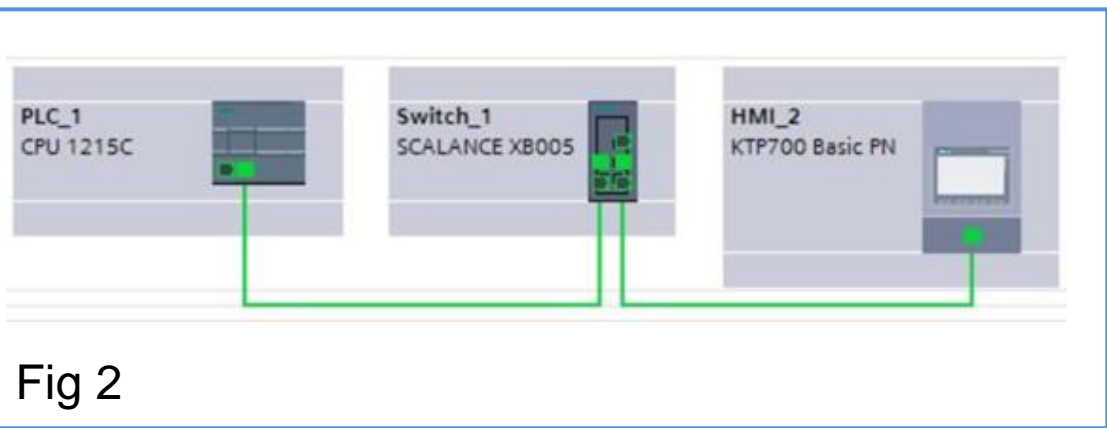

Fig 2
4. Step 4: Connect the parts 1,2 and 3 following the Fig.2;
6. Step 6: Connect parts 4 and 10 to the components of figure 2 as in figure 4.